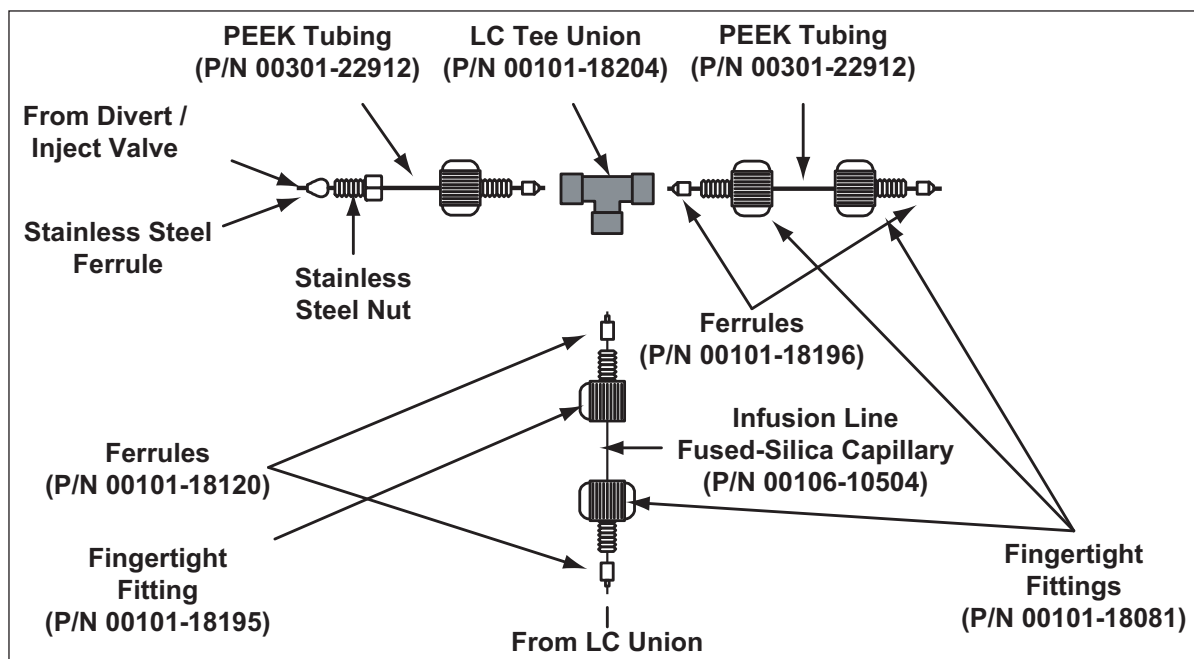

Figure 28. APCI/APPI/MS plumbing connections for the LC Tee union
- a. Connect the infusion line with a (brown) fingertight fitting and a (brown) ferrule to the free end of the LC union. See Figure 28.
5. Connect a segment of PEEK tubing from the (black) LC Tee union to the APCI LC inlet: (Figure 28.)
6. Connect an appropriate length of PEEK tubing (transfer line from the divert/inject valve) from the divert/inject valve to the LC Tee union: (Figure 28.)